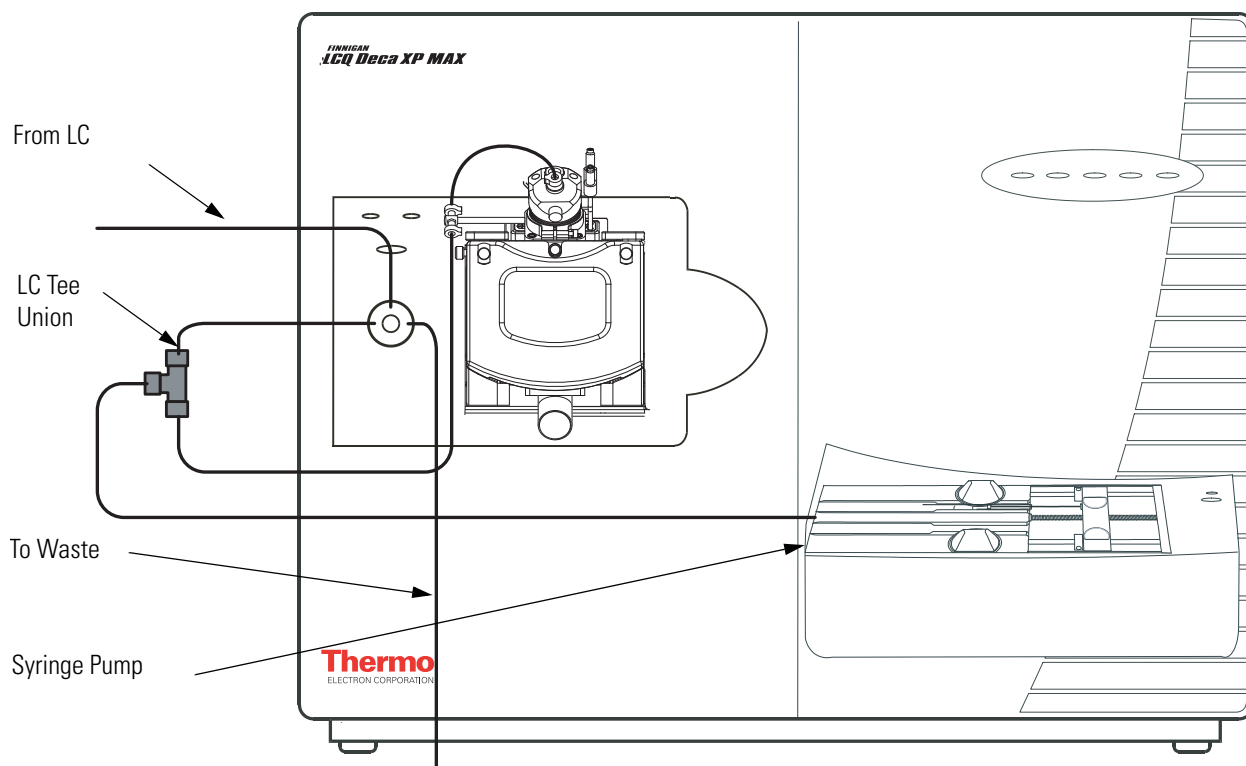

Figure 20. APCI/APPI/MS plumbing connections for sample introduction from the syringe pump into solvent flow from an LC
The plumbing connections for the APCI/APPI/MS sample introduction from the syringe pump are shown in Figure 20.
- Connect the infusion line (P/N 00106-10504) with a (brown) Fingertight fitting and a (brown) ferrule to the free end of the LC union (Figure 20).